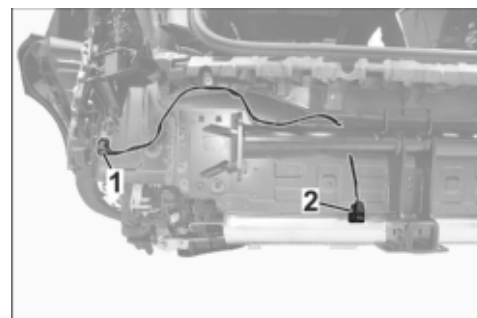

Figure 4
- 2.3 Fit trailer tow hitch cable harness to rear retaining strip. ⇒ Figure 4
- 2.4 Remove blank plug from rear wall and route trailer tow hitch wire harness to trailer tow hitch control unit holder. ⇒ Figure 4 -1-